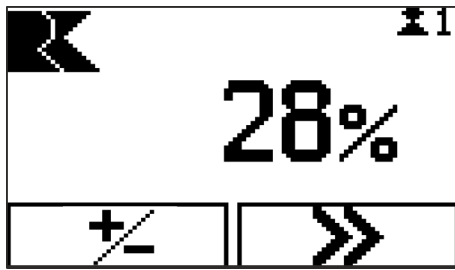

Fig. 45: 'Relative positioning' mode
- Relative positioning (Fig. 45)
- ⇒ The display screen switches to 'Relative positioning' mode (Fig. 45).